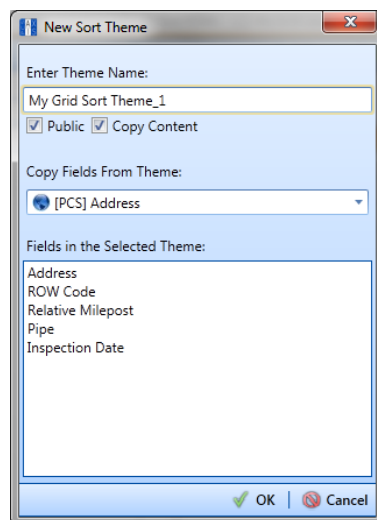

Figure 7-86. New Sort Theme
- 6 Click the **+** **Add** button to open the *New Sort Theme* dialog box (Figure 7-86).